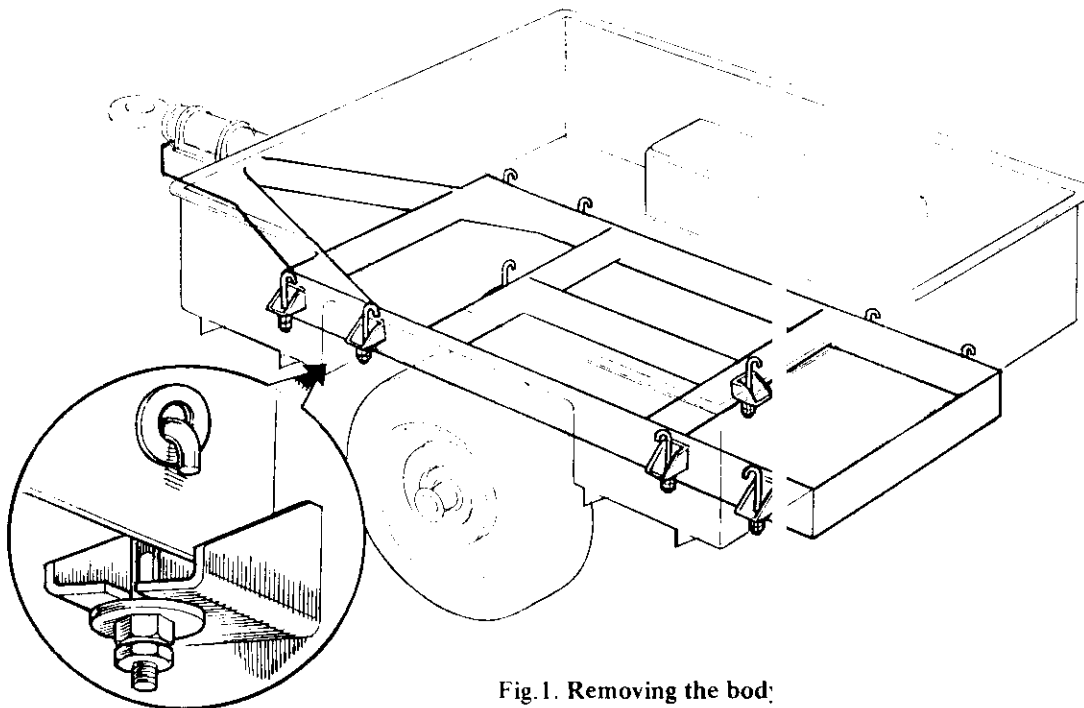

Fig. 1. Removing the body.
16. The body may be removed from the chassis as a complete unit by unscrewing the lock nuts and nuts on the ten hooks which are situated under the body floor, four along each side and two along the centre. (Fig. 1.).